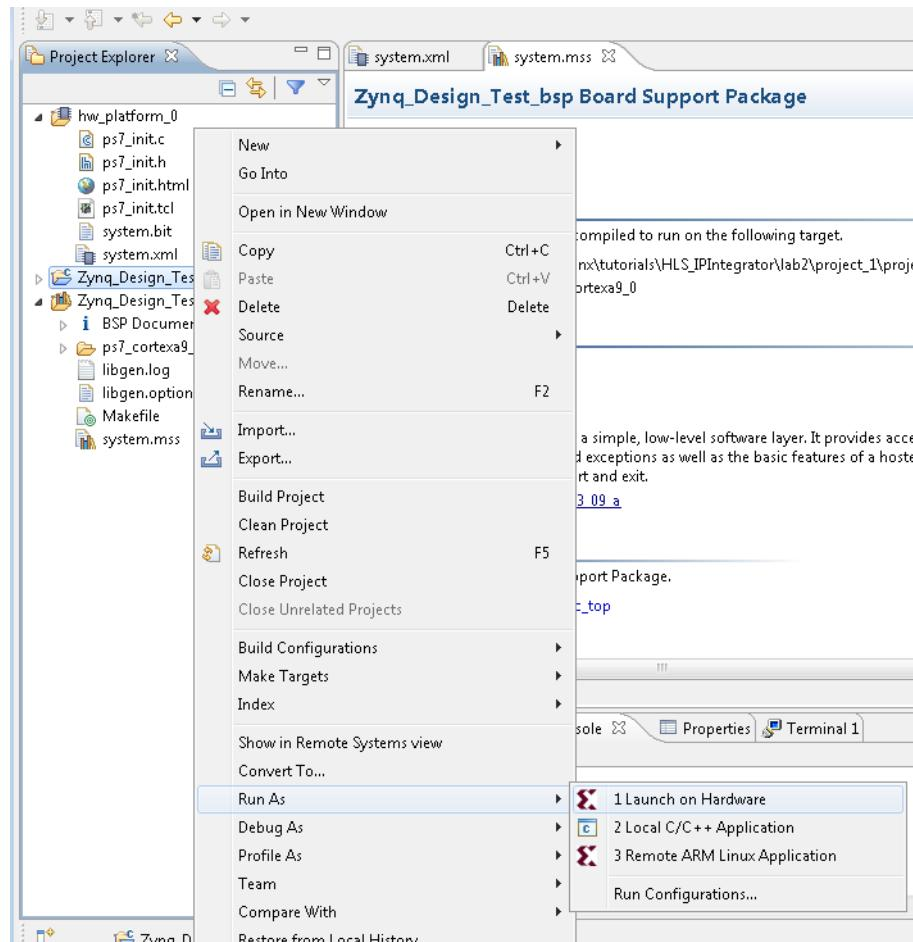

Figure 10-27: Run the Application Project
8. Right-click the application project **Zynq_Design_Test** in the Explorer pane (Figure 10-27).